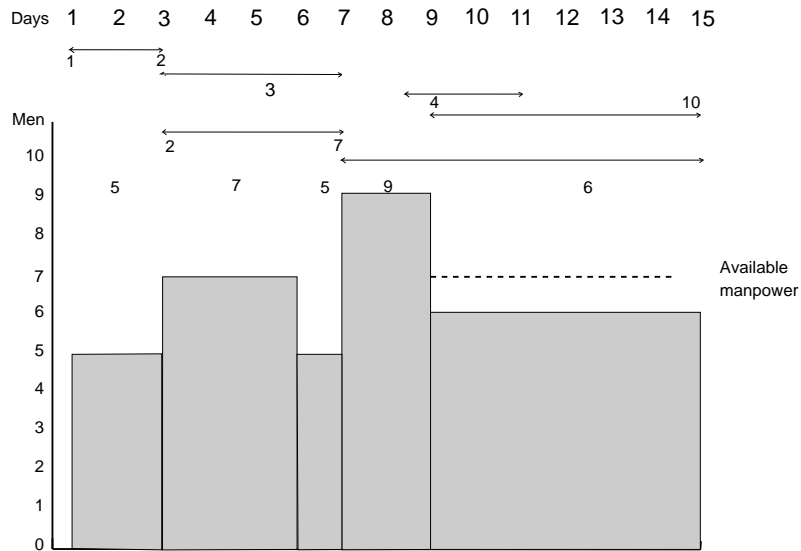

Figure 9: Example of a Gantt chart
**Gantt charts** can be presented in various ways. Decisions need to be made about the data to be included once the network has been constructed and calculated. One chart may refer to the normal network, a second may refer to a crashing procedure. Charts will often be plotted on the earliest activity times and will indicate any of the types of float of particular interest. Many Gantt charts are plotted showing earliest times and free float and project managers are under pressure to keep to these times. An example is shown in Figure 9.
From Figure 9, you can see that problems of resourcing are going to occur on Days 7 and 8. The labour demands exceed the availability, and the project manager needs to resolve this issue to the best advantage. Usually budgets have been agreed at an earlier stage with operations managers. In the following example, the number of man-days has been agreed as indicated: